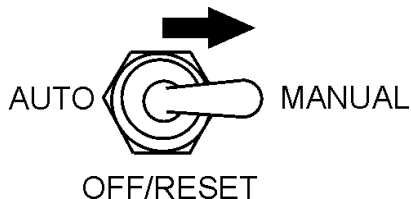

Figure 88. Auto-Off/Reset Switch (Manual Position)
2. While keeping the **Hour Check Button** pressed, place the **Auto Off/Reset Manual Switch** (Figure 88) in the **MANUAL** position.